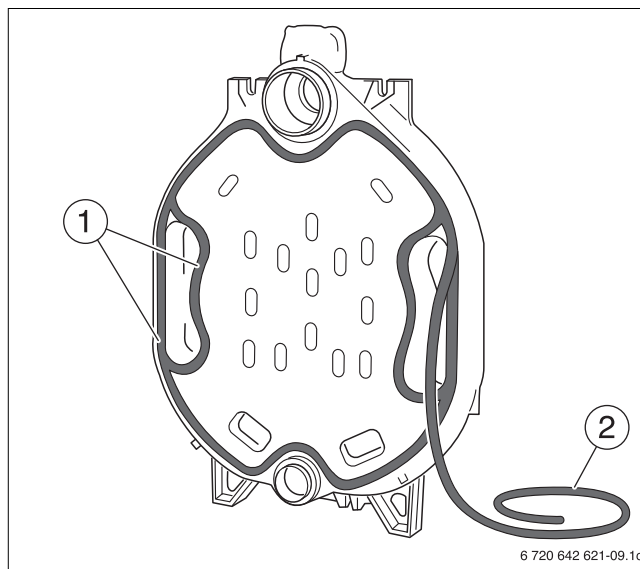
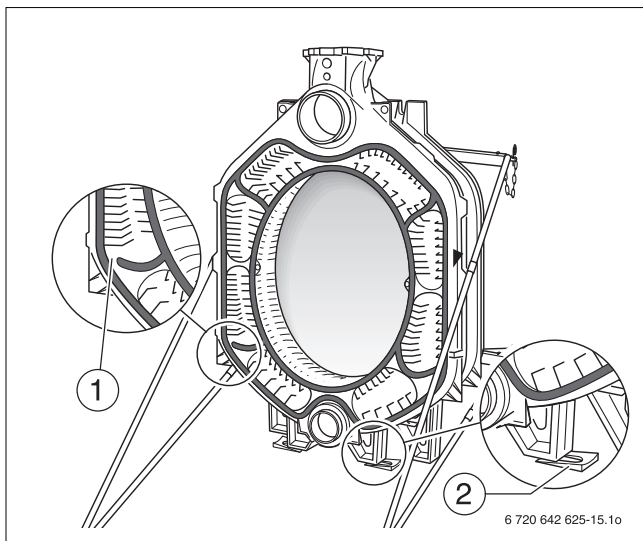

Fig. 13 Inserting sealant rope
Fig. 18 Using the boiler section foot wedges
- ▶ Do not let sealant rope overlap at the left and right of the butt joints (→ Fig. 13, [3]).
Fig. 18 shows the intermediate section with supply connection. The nipples for mounting of the next intermediate section are inserted into the corresponding hubs. The sealant rope has already been inserted into the packing groove. As shown for the rear section (→ Fig. 13, page 16), here too, the flexible sealant rope is interrupted. The boiler section has been equipped with foot wedges for ease of installation. The boiler section foot wedges are also used later for final leveling of the boiler block.
- ▶ Level the boiler block vertically and horizontally on the base/foundation (→ see Chapter 6.3, page 13). Use the boiler section foot wedges provided for this purpose (→ Fig. 18, page 18).